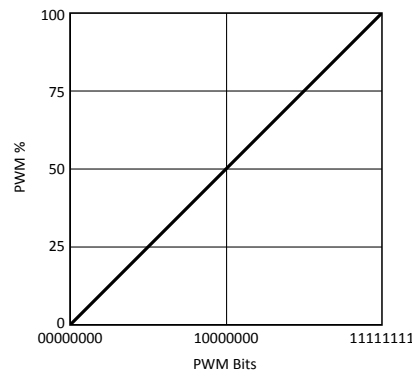

Figure 29.
- 16 - Bits [7:0] PWM These bits set the D1 output PWM as shown in Figure 29 below.